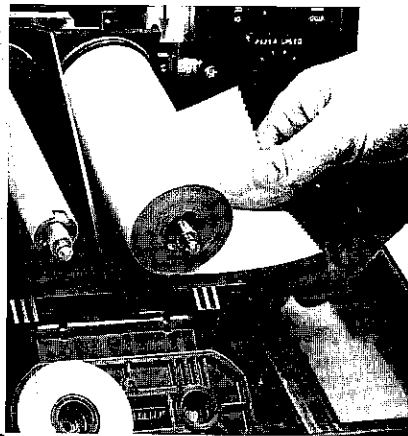

FIGURE 30
7. Slide a fresh roll of Lowrance chart paper in position on the supply side shaft on the right side of the platen assembly. The paper must spool off the bottom of the roll. (See Figure 30).